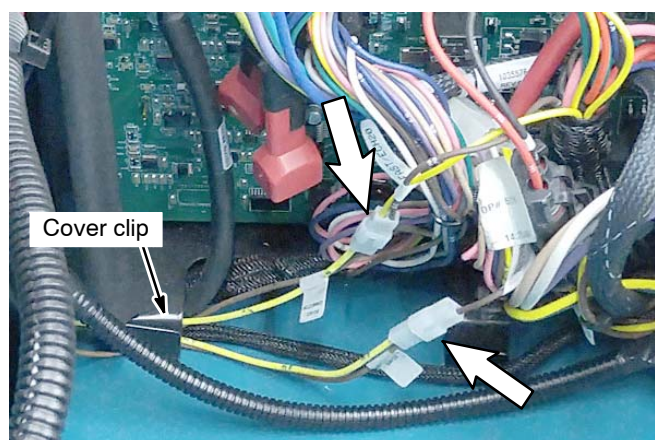

FIG. 28
14. Connect the two brown and yellow wires from telemetry harness to the open wire connectors (wires 14A/YEL 22A/BRN) within the circuit board area (FIG. 28). Position the brown and yellow wires under the cover clip as shown.